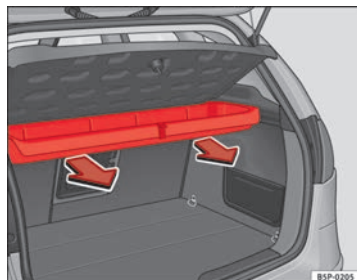

Fig. 123 Removing storage compartment
- Pull outwards until the compartment is freed from the pivot point ⇒ Fig. 123.